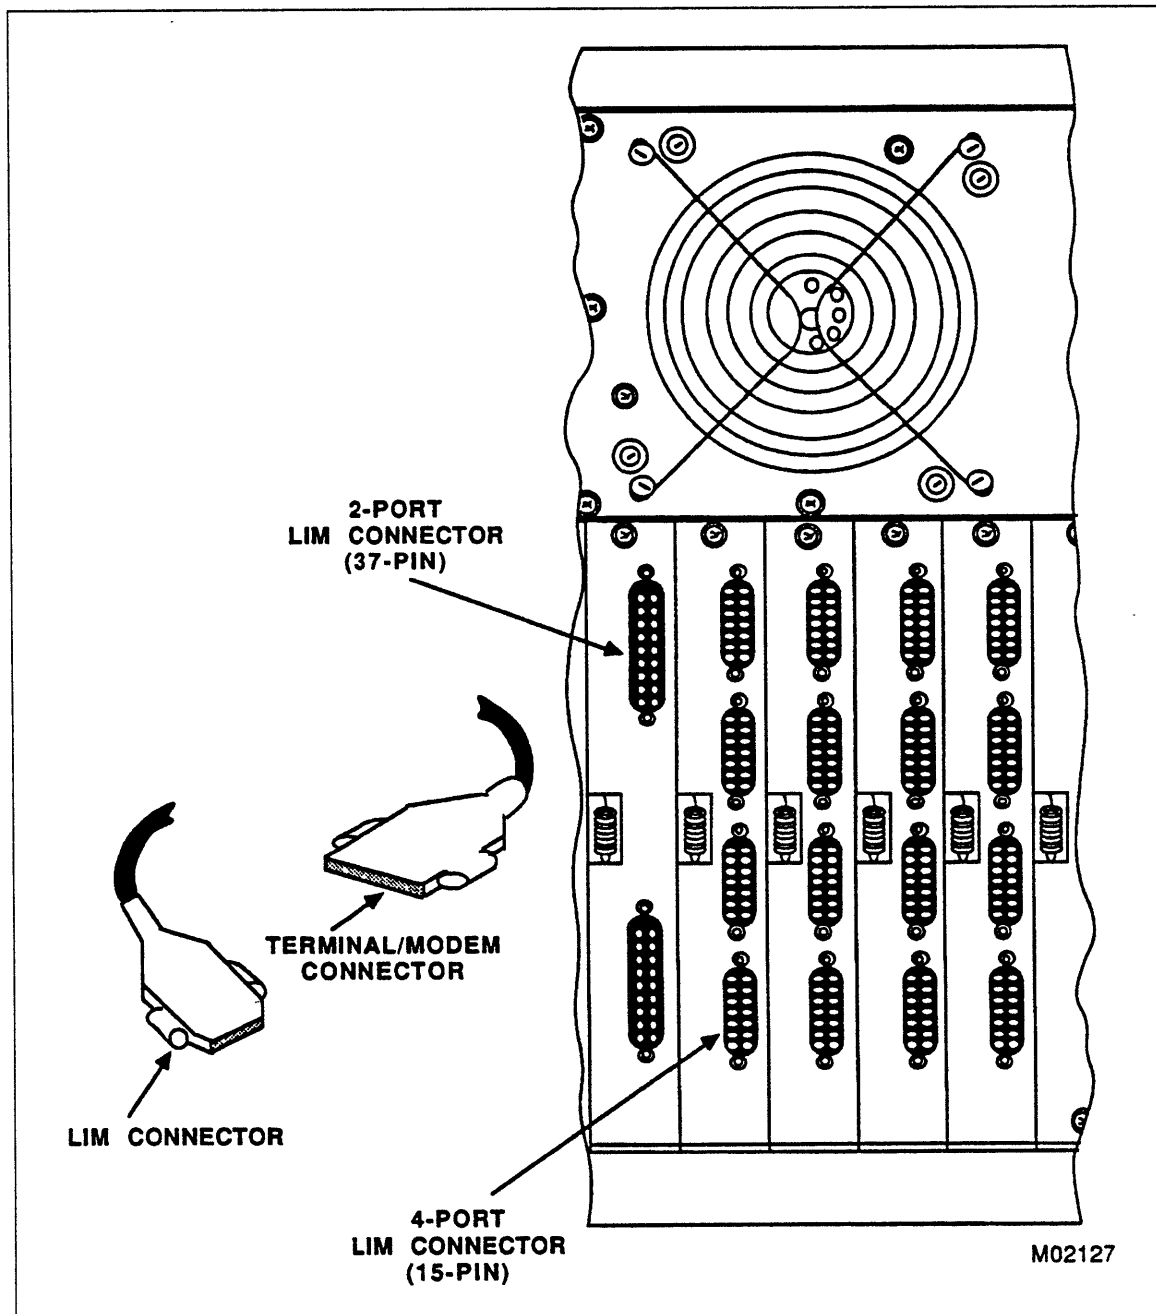

Figure 3-63. Connecting Cables to X.24 LIMs
1. Connect the cable(s) to the 4-port LIM connectors shown in figure 3-63. Tighten the locking screws with a straight slot screwdriver.